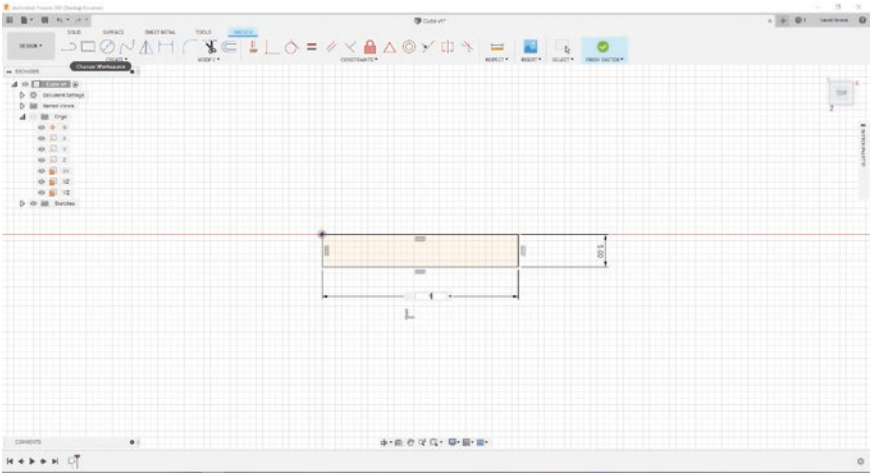

Figure 3-47. Add dimensions to the last side of the rectangle
- 10. Finally, let's constrain the last side by pressing the "D" key and selecting the final blue side and entering a 5 into the text box. See Figure 3-47. Congratulations! Your sketch is fully constrained now.